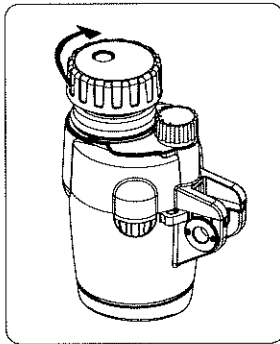

Figure 3
4. Fit the battery cover in place, push down, and turn clockwise. (Figure 3)